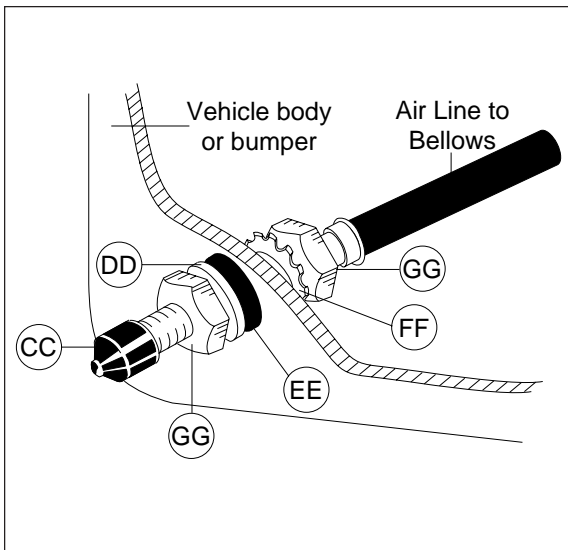

Figure 5
4. Place a $\frac{5}{16}$ " nut (GG) and a star washer (FF) on the air valve. Leave enough of the inflation valve in front of the nut to extend through the hole and have room for the rubber washer (EE), flat washer (DD), and $\frac{5}{16}$ " nut (GG) and cap (CC). There should be enough valve exposed after installation - approximately $\frac{1}{2}$ " - to easily apply a pressure gauge or an air chuck (Figure 5).
5. Push the inflation valve through the hole and use the rubber washer (EE), flat washer (DD), and another $\frac{5}{16}$ " nut (GG) to secure it in place. Tighten the nuts to secure the assembly in place (Figure 5).
6. Route the air line along the frame to the air fitting on the air spring. Keep at least 6" of clearance between the air line and heat sources, such as the exhaust pipes, muffler, or catalytic converter. Avoid sharp bends and edges. Use the plastic tie straps (BB) to secure the air line to fixed, non-moving points along the chassis. Be sure that the tie straps are tight, but do not pinch the air line. Leave at least 2" of slack to allow for any movement that might pull on the air line.